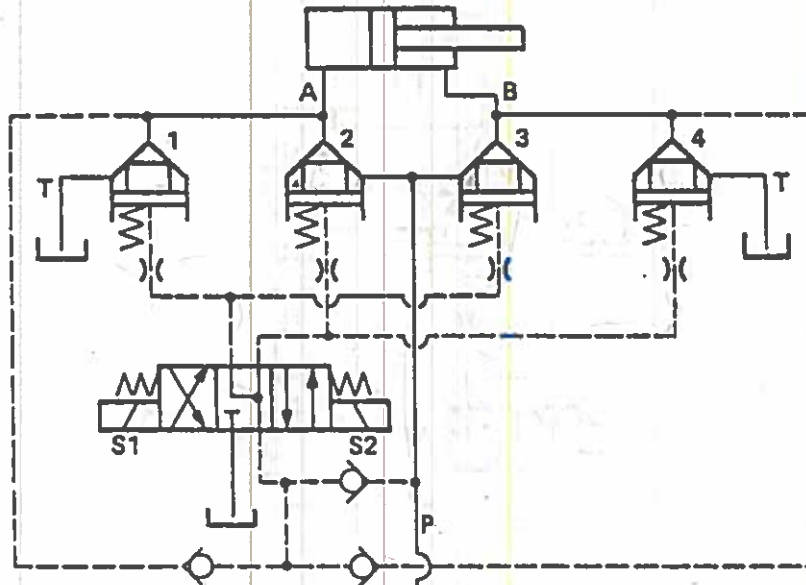

Figure 4
14. Adding three check valves to the pilot circuit as shown in Figure 4 provides an equivalent spool valve center condition of: